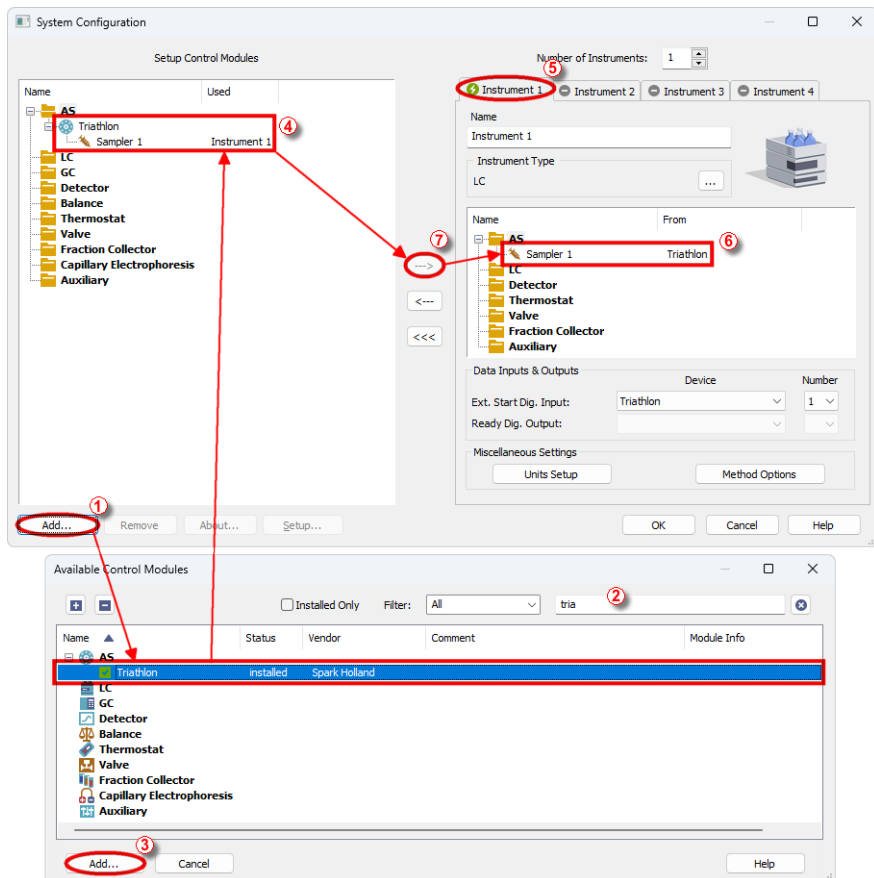

Fig. 3: System Configuration
- Press the **Add** button **1** (see **Fig. 3** on pg. 4.) to invoke the **Available Control Modules** dialog.